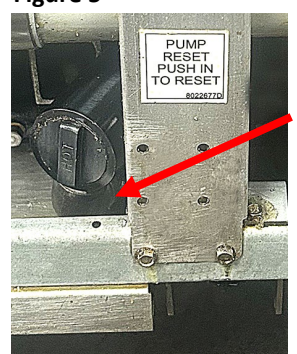

Figure 7
8. Position the pre-filter as low and left as possible on the vertical support above the female receptacle (see Figure 7).